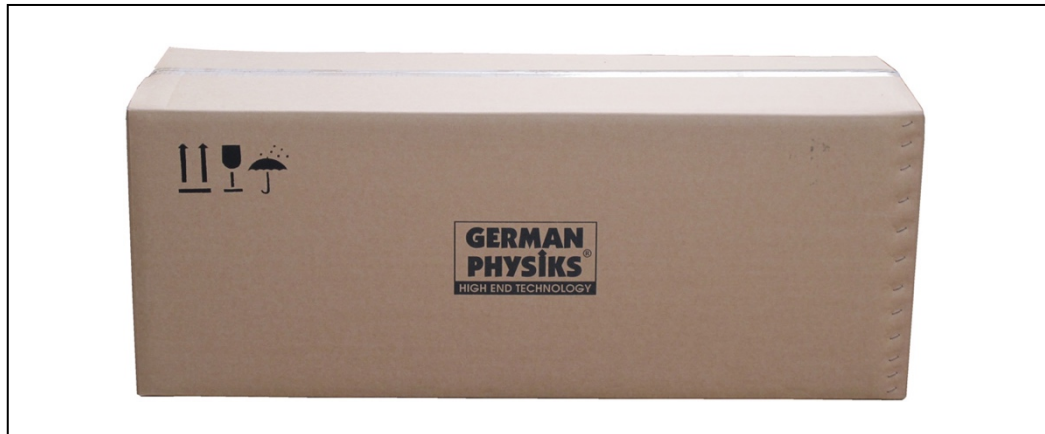

Figure 1. Ultimate Shipping Carton
The Ultimate is supplied with each loudspeaker packed separately in a double carton. This must be kept horizontal as shown in figure 1. Before opening the cartons, please inspect them for damage. If you see any damage, please contact the supplying audio dealer immediately and provide them with a full description of the damage. Do not attempt to unpack the loudspeakers until you have spoken with the dealer and have been advised how to proceed.
1. Place the carton upright as shown in figure 1 and carefully cut the sealing tape.